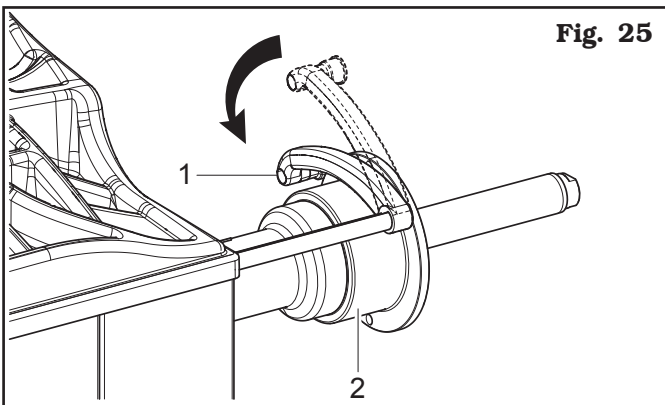

Fig. 25
REPEATEDLY BRINGING THE CALIPER ARM (FIG. 25 REF. 1) IN CONTACT WITH THE MANDREL (FIG. 25 REF. 2), THE PROGRAM WILL CYCLE FROM "STATIC" TO "STATIC 1" TO "2 STATIC" THEN RETURNING TO THE BEGINNING.
REPEATEDLY BRINGING THE CALIPER ARM (FIG. 25 REF. 1) IN CONTACT WITH THE MANDREL (FIG. 25 REF. 2), THE PROGRAM WILL CYCLE FROM "ALU-S" TO "ALU-S1" TO "ALU-S2" THEN RETURNING TO THE BEGINNING.
FIRST MOVEMENT: to pass from static (STAT) to ST1 (STATICO 1) in automatic mode, lean the gauge arm (Fig. 25 ref. 1) against the bell (Fig. 25 ref. 2).
SECOND MOVEMENT: lift and lower again the gauge arm to select the ST2 (STATIC 2) mode (see Fig. 25).
To pass from static ALU-S to ALU-S1 in automatic mode, lean the gauge arm (**Fig. 25 ref. 1**) against the bell (**Fig. 25 ref. 2**).
Lift and lower again the gauge arm to select the ALU-S2 mode (see **Fig. 25**).